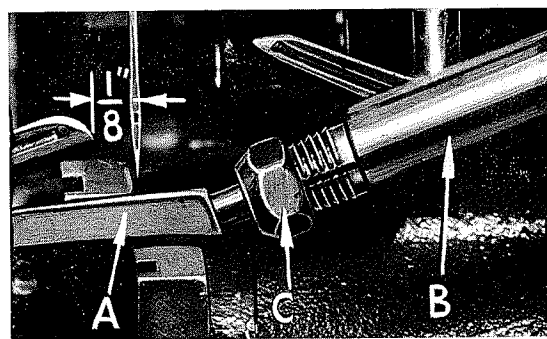

Fig. 5
At this point, insert lower looper (A, Fig. 5) into bar (B). With lower looper at left end of its stroke, set looper point $\frac{1}{8}$ inch from center of needle (Fig. 5), using looper gauge No. 21225-1/8. Do not have lower looper deflecting needle. Tighten nut (C).